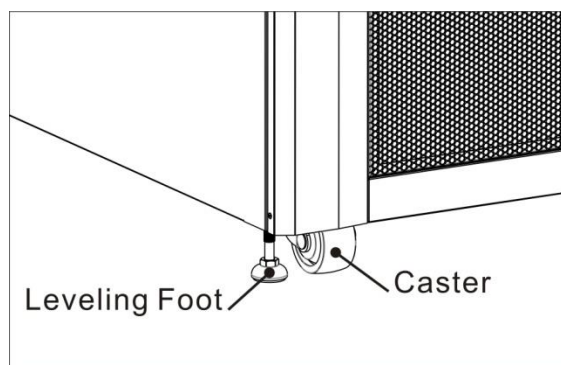

Figure 2-6
5. At the bottom of the UPS, the four casters help you to move the UPS to a designated area. Before you move the UPS, please turn the four leveling feet counterclockwise to raise them off the ground. This protects the leveling feet from damage when moving the UPS. Refer to Figure 2-6.